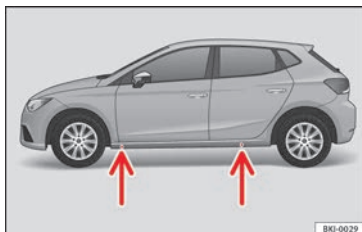

Fig. 83 Jack position points.
• Find the support point on the strut (sunken area) closest to the wheel to be changed » Fig. 83.